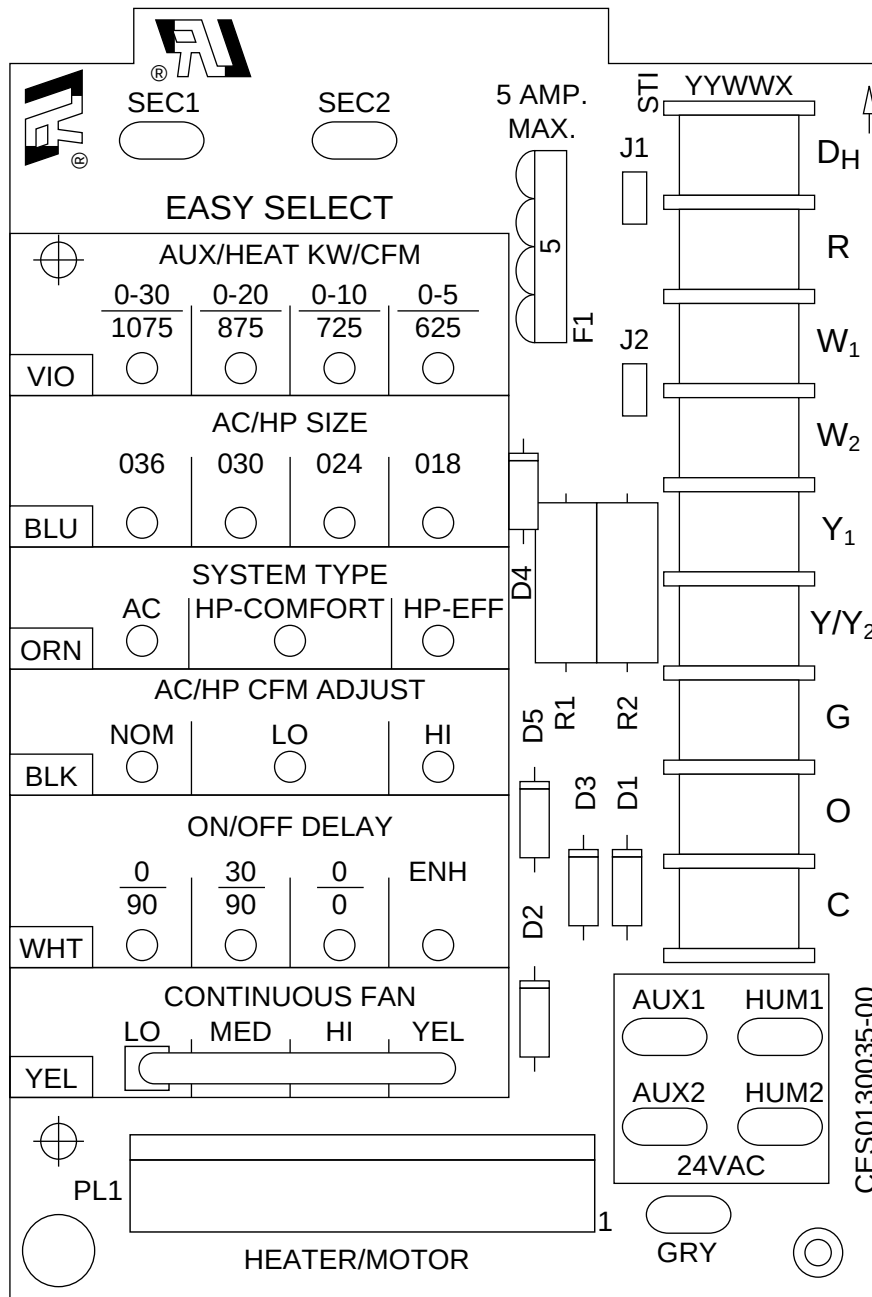

Fig. 24—Easy Select Board
NOTE: Layout of actual PCB is depicted in Fig. 24 and 25.
The Easy Select taps are used by installer to configure system. The ICM2 uses selected taps to modify its operation to a pre-programmed table of airflows. Airflows are based on system size or mode of operation and those airflows are modified in response to other inputs such as the need for de-humidification. (See Fig. 24.)
skip this step. Each select pin is marked with a range of heaters for which airflow (also marked) is approved. For increased comfort select the narrowest kw range matching the heater size, for example, 0-10 for a 10-kw heater. This airflow must be greater than the minimum CFM for electric heater application with the size system installed for safe and continuous operation. Note that airflow marked is the airflow which will be supplied in emergency heat mode and heating mode on air conditioners when electric heat is primary heating source. To ensure safe heater operation in heat pump heating mode when electric heaters are energized, the ICM2 will run the higher of heat pump airflow and electric heater airflow. The factory selection is largest heater range approved. (See Fig. 24.)
The factory setting for air conditioner or heat pump size is largest unit meant for application with model of fan coil purchased. The installer needs to select air conditioner or heat pump size to ensure that airflow delivered falls within proper range for size of unit installed in all operational modes. (See Fig. 24.)
The factory setting is AC. (See Fig. 24.)
Select low, nominal, or high airflow. To provide any of these airflows, AC/HP ADJUST select must be moved to NOM position. The factory selection is NOM. The adjust selections HI/LO will regulate airflow supplied for all operational modes, except non-heat pump heating modes, +15 percent and -10 percent respectively. The adjust selection options are provided to adjust airflow supplied to meet individual installation needs for such things as noise, comfort, and humidity removal. (See Fig. 24.)
Select desired time delay profile. Four motor operation delay profiles are provided to customize and enhance system operation. (See Fig. 24.) The selection options are:
Select desired Continuous fan profile LO, MED, or HI. Airflow are provided to customize and enhance the continuous fan functions. (See Fig. 24.) The possible selections are:
1. Check low-voltage transformer leads (red and brown). Be sure they are wired to correct locations. (See Fig. 24 and 26.)
2. Check low-voltage fuse shown in Fig. 24. If fuse is blown, replace it. The transformer cannot supply power to board with fuse blown or loose. If fuse blows when unit has power applied to it, the system most likely has 1 of the following problems: